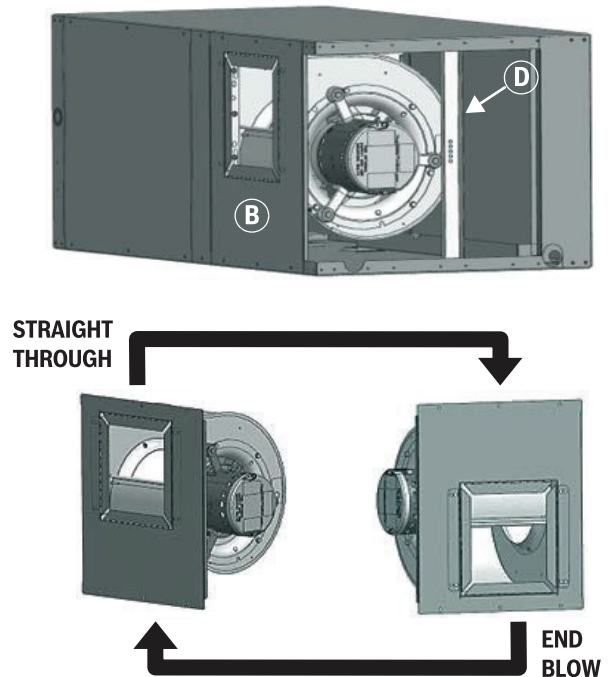

Fig. 13 — Blower Configuration
2. Locate the motor access panel (A). Remove the three screws at top and the three screws at the bottom of the panel. Remove the access panel and place it aside.
4. Locate blower panel (B). Remove the three screws from top and the three screws from bottom of the panel. Leave the blower panel in place on the base pan.
5. Locate access panel corner post (C). Remove the four screws from top and the four screws from the bottom. Remove the corner post and set it aside.
6. Locate blower support bracket (D). Remove the one screw and set it aside.
7. Move blower panel (B) with blower to desired location, rotating it 180°. (See Fig. 13.) The motor power and control harness can be unplugged to facilitate blower relocation.
8. Reinstall access panel corner post (C) using the eight screws previously removed.
9. Fasten blower panel (B) using the six screws previously removed.
10. Reinstall and fasten blower support bracket (D) using the one screw previously removed.
12. Reinstall and fasten motor access panel (A) using the six screws previously removed.